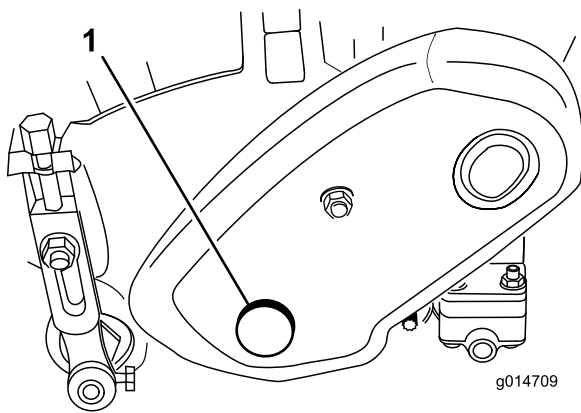

Figure 20
1. Remove plug from the reel drive cover on the left side of reel assembly (Figure 20)